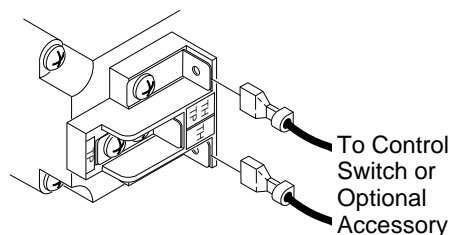

Figure 34 - Control Valve Terminals
3. Connect one terminal of the wire for the wall thermostat to the THTP terminal on the valve. Connect remaining wire terminal to the TH terminal on the valve. Make sure that the wire terminals are in the positions on the unit as pictured in Figure 34. If wires are not connected as shown the thermostat will not work.
3. Disconnect wires from THTP and TH on control valve that lead to the switch (see Figure 34, page 15). Discard switch plate, screws, and nuts.
7. Connect the wires from the receiver to the valve at TH and THTP (see Figure 34, page 15).